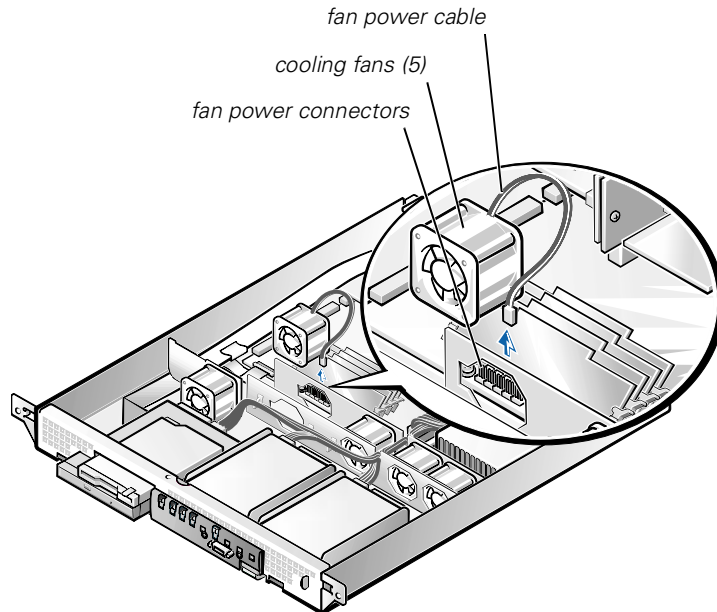

Figure 7-5. Removing a Cooling Fan
Five cooling fans are installed in the system chassis. (See Figure 7-5 for fan orientation. Fan 1 is the outermost fan in the fan assembly, located directly behind the CD-ROM drive.) If you observe that one of the cooling fans is not operating or if the Dell Diagnostics software issues a fan-related error message, perform the following steps to replace the faulty fan.
5. Lift the fan out of the system chassis (see Figure 7-5).
6. Press the new fan into its position in the chassis and connect the fan power connector to a vacant fan power connector in the system board (see Figure 7-5). Ensure that the replacement fan is oriented the same way as the original fan.